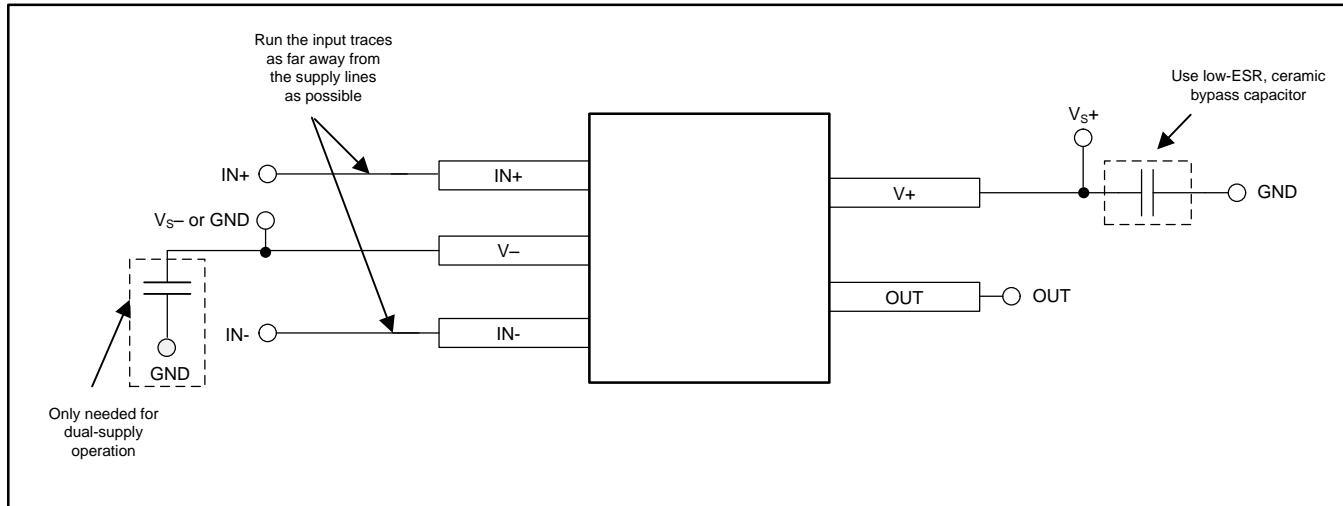

Figure 22. Comparator Board Layout
- To minimize supply noise, place a decoupling capacitor ($0.1\text{-}\mu\text{F}$ ceramic, surface-mount capacitor) as close as possible to V_S as shown in Figure 22.